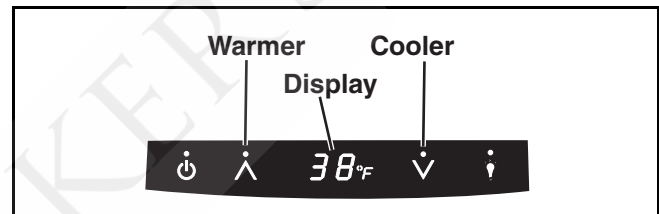

Figure 16
1. Touch and hold the WARMER icon (**Figure 16**) for approximately five seconds and release when the °F symbol in the display begins to flash.
1. Press and release either the WARMER or COOLER icon (**Figure 16**) to enter the SET TEMPERATURE mode. The °F symbol will begin to flash.